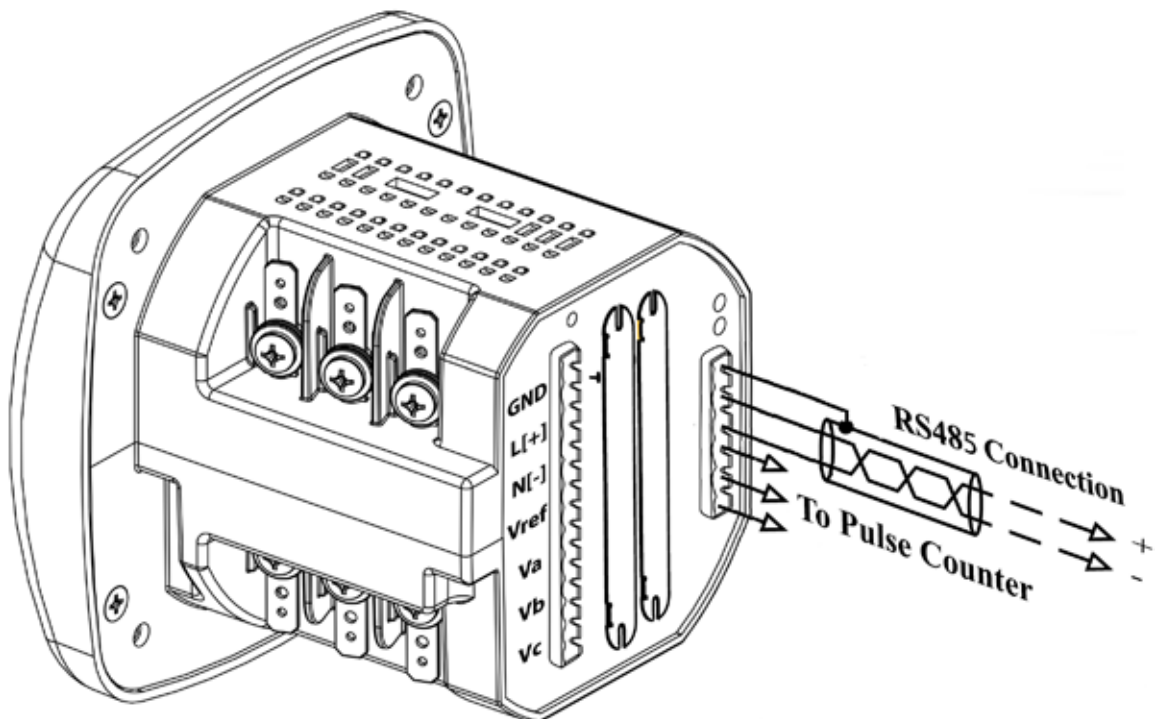
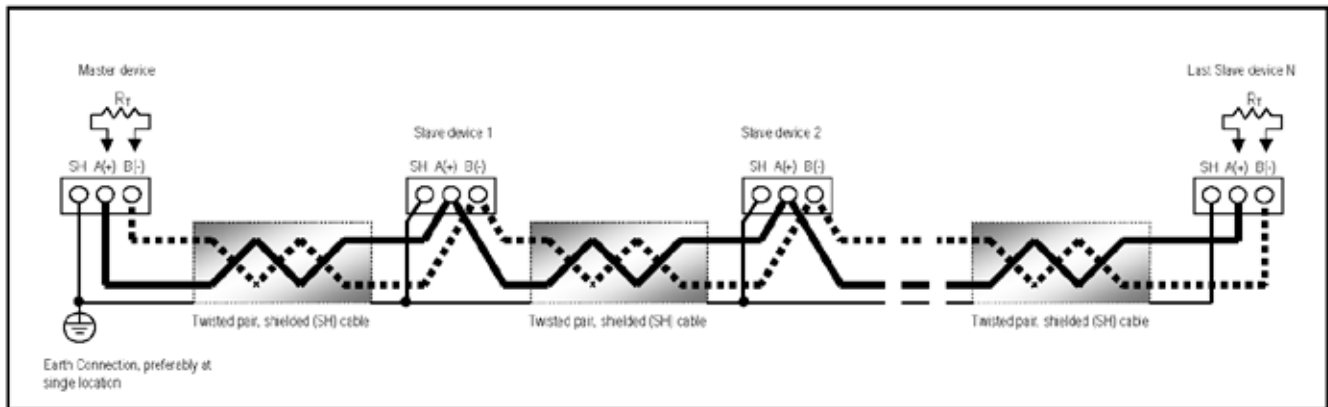

Figure 5.1: Meter Back with RS485 Communication Installation
Figure 5.3: RS485 Daisy Chain Connection
- Connect shield to RS485 Master and individual devices as shown in Figure 5.3. You may also connect the shield to earth-ground at one point.
Figure 5.3 shows a representation of an RS485 Daisy Chain connection.
To provide power to the meter, attach an **Aux cable** to GND, L (+) and N (-) (refer to Chapter 5, Figure 5-1. The **RS485 cable** attaches to SH, B (-) and A (+) as shown in Figure 5.3 of this chapter.